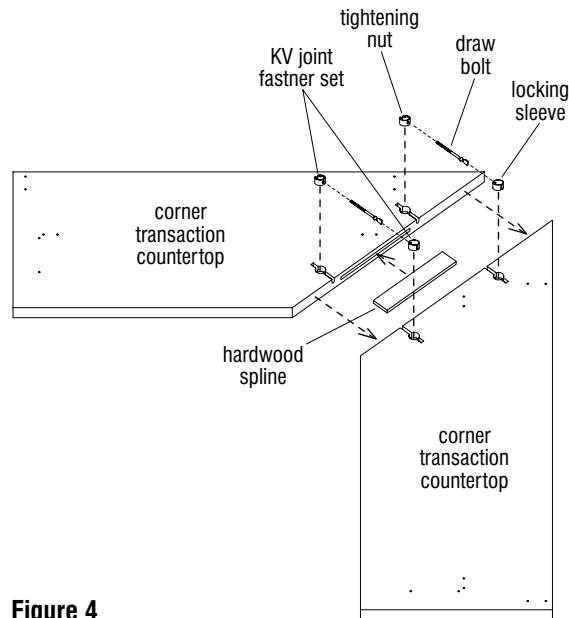

Figure 4
1. Place the two corner counter surfaces to be joined upside down on a soft protective surface. Position the surfaces as illustrated, then locate and identify the KV joint fastener components from the hardware pack (Figure 4).
2. Center the hardwood spline into the routed slot in one corner top to be joined. Press the two tops together, aligning the hardwood spline. Check to make sure the tops join together completely with the spline in place. If they do not, sand the spline if necessary or adjust its location in the slot (Figure 4).
3. Assemble KV fasteners by first twisting a draw bolt into each tightening nut a few turns, then press each pair into a  $\frac{7}{8}$ " hole and slot in the underside of the transaction countertop surfaces to be joined. The flat-end of each draw bolt will be visible in the  $\frac{7}{8}$ " hole on one side of the units being joined. One at a time, position each locking sleeve as illustrated and insert locking sleeves into the  $\frac{7}{8}$ " holes so that the slotted sleeve engages the rounded collar on the bolt (Figure 4).
4. Tighten the nut with a tightening tool or a nail-set. Check the front and back edges, and more importantly the top side of the joint for proper alignment. The top-side joint should be smooth and level with no gaps. Adjust as necessary to achieve a "seamless" look (Figure 4).